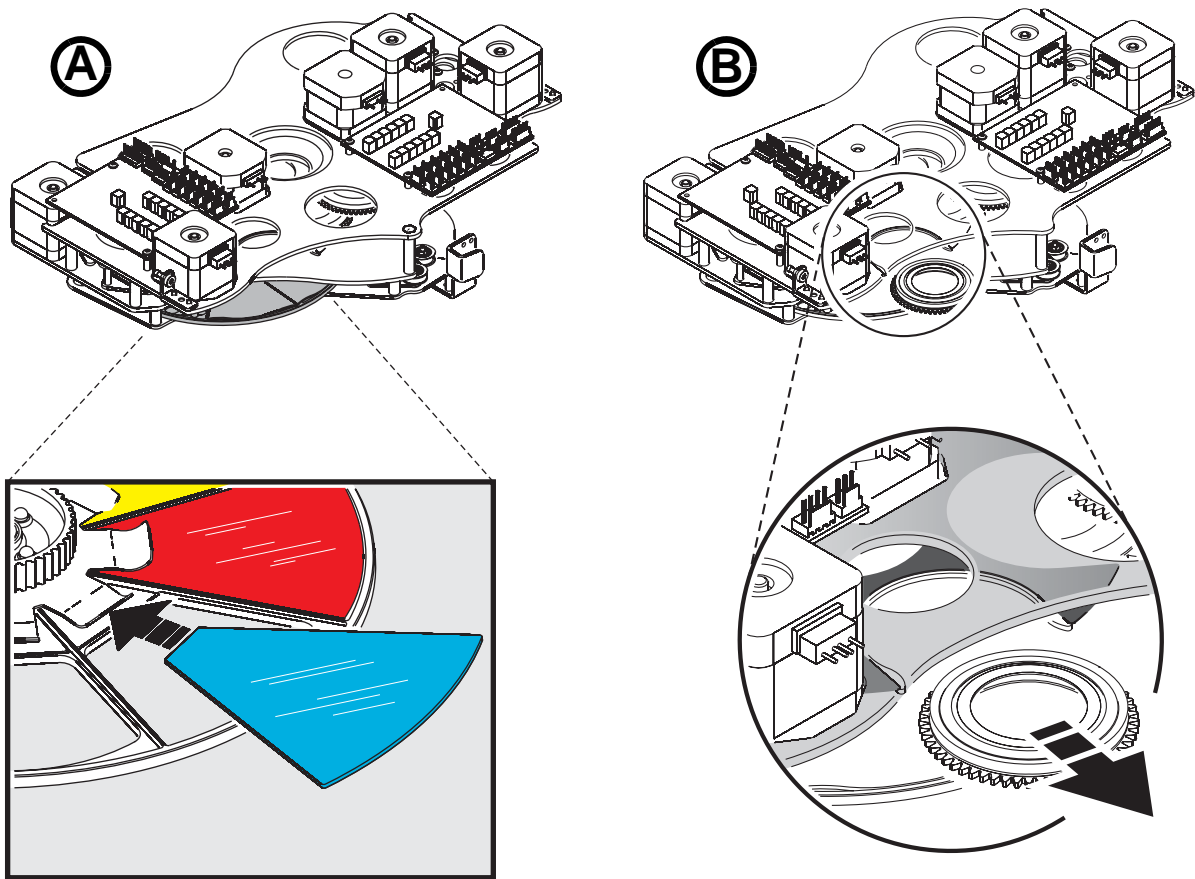

Figure 21: Color filter and gobo replacement
4. See **A** in Figure 21 on page 41. Rotate the color wheel until the filter you want to change is accessible. Lift the filter away from the color wheel slightly to release it, then grasp it by the edges and remove. If your fingers are too large, protect the glass with a piece of paper that has been folded several times and grasp the filter with needle nose pliers.
2. See **B** in Figure 21 on page 41. Rotate the relevant gobo wheel until the gobo you want to replace is accessible.
8. Check that the goboholder is the right way up (see Figure 21), then work the rim of the gobo holder under both clips and snap the gobo holder back into position on the gobo wheel. If necessary, a small screwdriver or similar tool may be used to pry the clips away from the wheel.